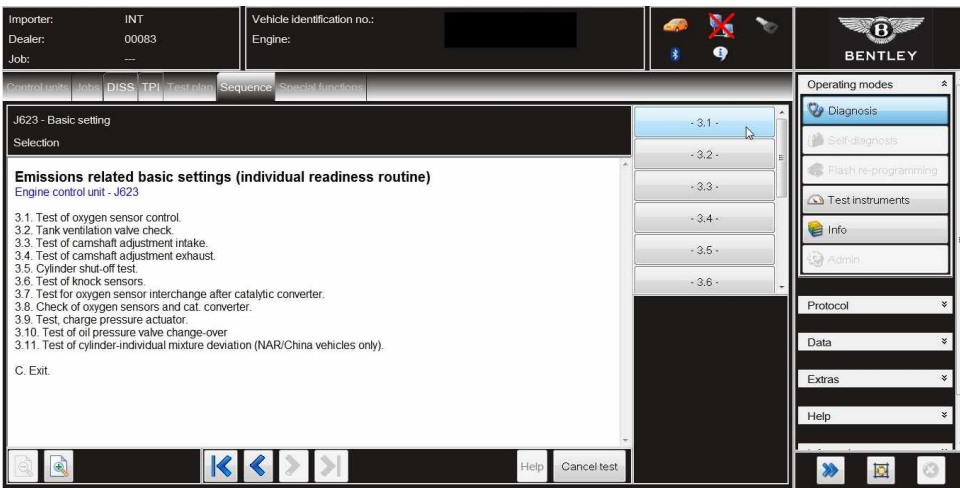

Figure 11
14. Referring to Figure 11 - A menu of 11 options will be evident